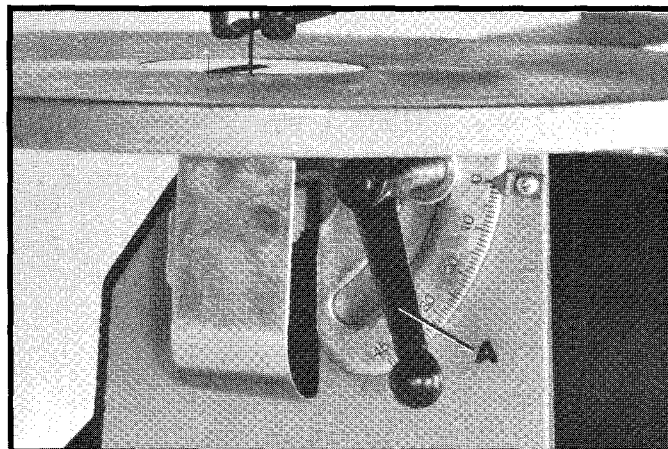

Fig. 31
The table on your scroll saw can be tilted 45 degrees to the left for bevel cutting operations by loosening table lock handle (A) Fig. 31, tilt the table to the desired angle and tighten lock handle (A).